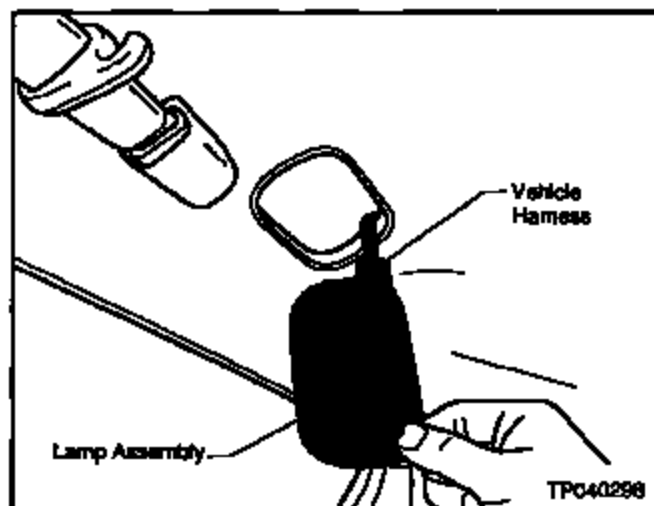

Figure G1
1. Remove the Personal Lamp Assembly by carefully pulling it out of the headliner (see Figure G1).